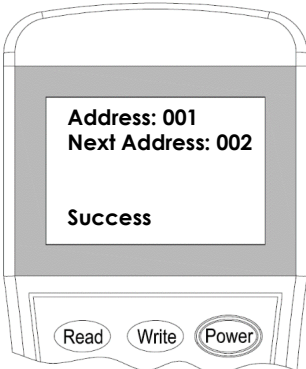

Figure 6
3. Input the desire device address value from 1 to 254, and then press **“Write”** to save the new address (Figure 6).